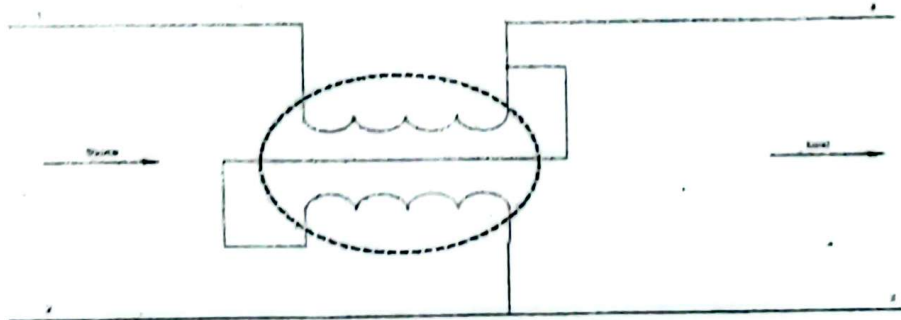

Figure 1: The wiring schematic of the single-phase wattmeter
Step 1 – Examine the construction of the single-phase wattmeter module shown in Figure 1, paying particular attention to its terminals and wiring.